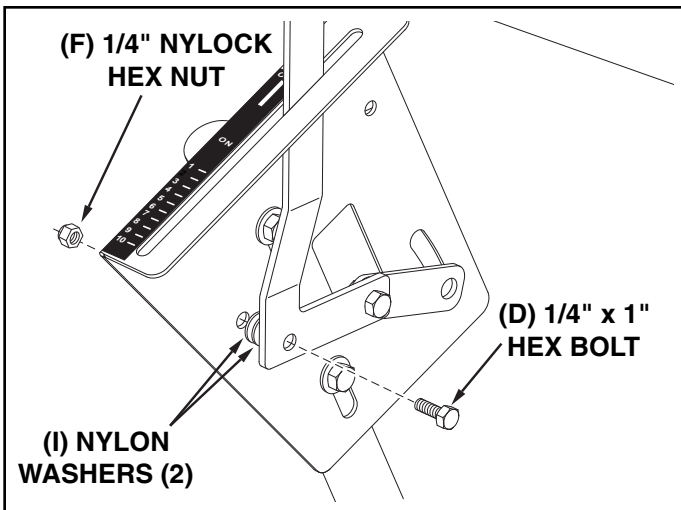

FIGURE 9
19. Assemble the flow control arm to the flow control mounting bracket using a 1/4" x 1" hex bolt (D), two nylon washers (I) and a 1/4" nylock hex nut (F). **Tighten carefully.** The flow control arm should be snug but should pivot with no more than slight resistance. See figure 9.